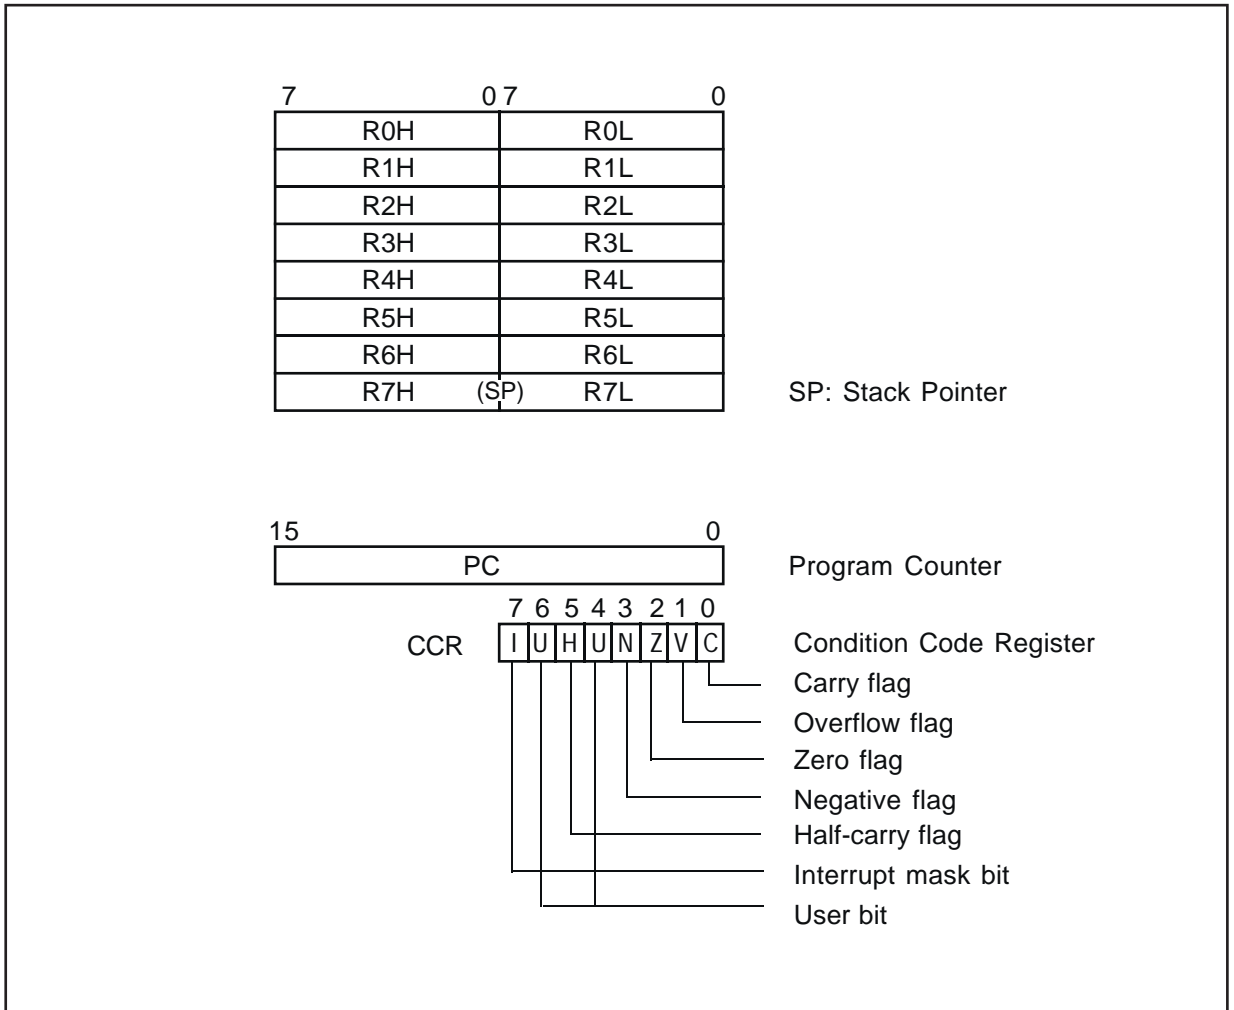

Figure 1-3. CPU Registers
Figure 1-3 shows the register structure of the H8/300 CPU. There are sixteen 8-bit general registers (R0H, R0L, ..., R7H, R7L), which can also be accessed as eight 16-bit registers (R0 to R7). There are two control registers: the 16-bit program counter (PC) and the 8-bit condition code register (CCR).